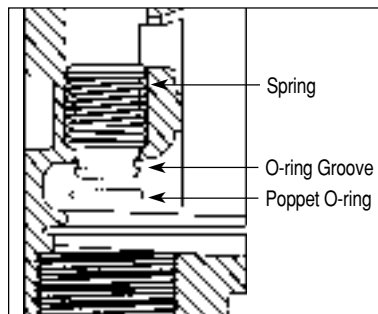

Figure 10
- b. Remove the O-ring with a small screwdriver or similar tool. Take care not to damage the poppet or O-ring. (Figure 10)
7. To assemble, place the spring and poppet into the poppet cavity through the top outlet port. Compress the poppet into the housing until the poppet appears in the lower chamber. (see Figure 10) Coat the O-ring lightly with grease and slip over the poppet head. Make sure the O-ring is well-seated.